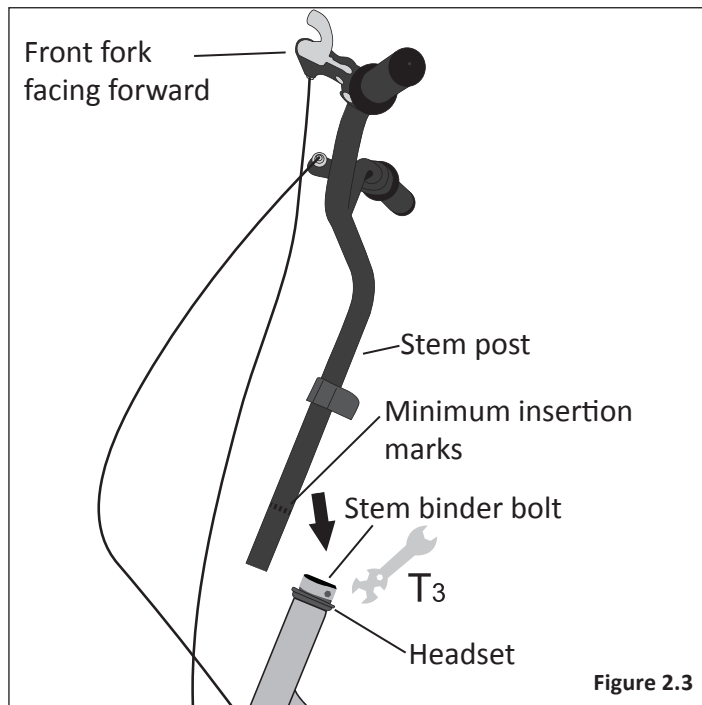

Figure 2.3
- 1 Turn the front fork to face forward. Figure 2.3